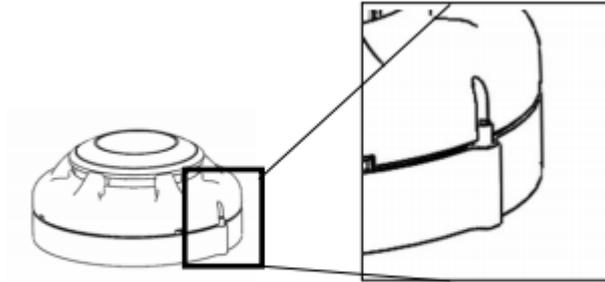

Figure 20: Position of the locking screw to lock the detector
3. Install the detector into the mounting base, making sure the wiring does not obstruct mounting of the detector head. Push the detector into the mounting base while turning it clockwise until the detector locks into place. Use a small hexagonal wrench to set the tamper resist feature (if required), see Figure 20.
The VDOT-UB series, VDOT-S6 Base, and VDOT-STB series of smoke/heat detector mounting bases have a tamper resist feature that works in conjunction with the detectors. When this feature is enabled, the detectors cannot be removed from the base without the use of a small hexagonal wrench. To avoid unauthorized removal of the detector, turn the locking screw in the mounting base counter-clockwise until the screw extends out about 4 mm (3/16 in.) from the rim of the base, as shown in the Figure 20.